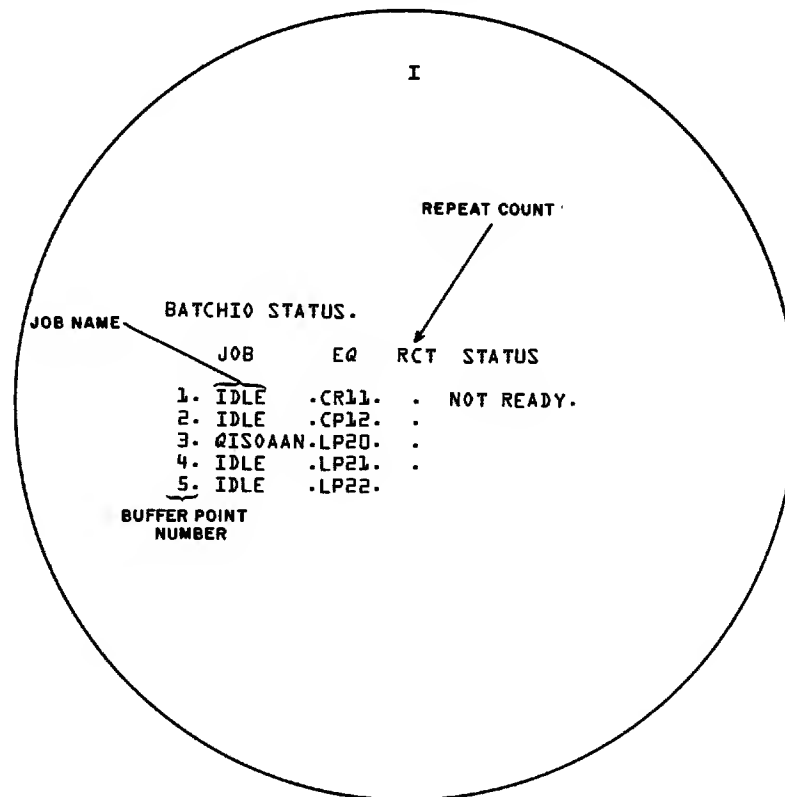

Figure 4-7. BATCHIO Status (I) Display
Figure 4-7 illustrates the BATCHIO status (I) display.